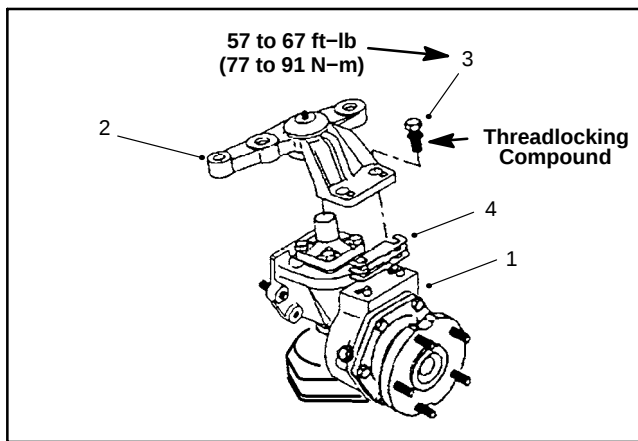

Figure 65
4. Remove the axle case support mounting screws, the axle case support and the support shims (Fig. 65).